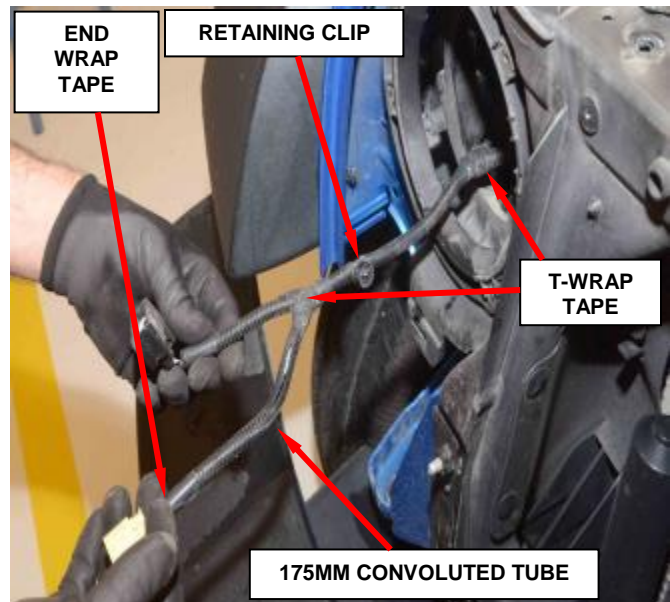

Figure 5 – Wire Harness Retaining Clip
- Release the right side wire harness retaining clip from the headlamp bracket (Figure 5).
30. Clip the wire harness to the headlamp bracket (Figure 5).